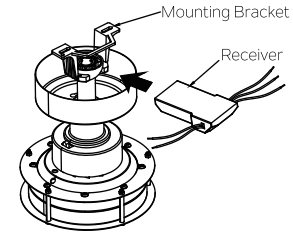

Fig. 12
**Step 1.** Insert the receiver into the mounting bracket, and keep flat in opposition of ceiling. (Fig. 12)